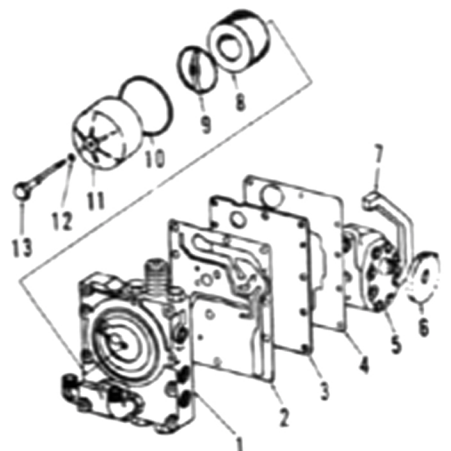
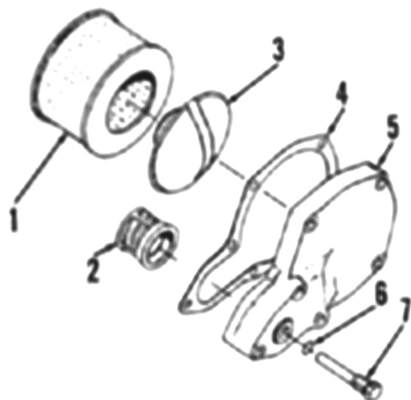

Fig. 24—Multiple control valve, hydraulic pump and filter located on left side of rear frame on all models.
Fig. 25—On Hydro 84 tractors, a hydrostatic drive filter located on left side of hydrostatic housing is used in addition to filter shown in Fig. 24.
11. Power steering is standard equipment on all tractors. Refer to Fig. 23 for view showing relative position of power steering components. The 12.5 gpm (Model 684) or 13.0 gpm (Models 784, 884 and Hydro 84) hydraulic pump is mounted on inside of multiple control valve (Fig. 24). Pressurized fluid from
12. The tractor rear frame serves as a common reservoir for all hydraulic and lubrication operations. The filter elements (Fig. 24 and Fig. 25) should be renewed at 10 hours, 100 hours and then every 200 hours of operation thereafter. Hydraulic fluid should be drained and new fluid installed every 800 hours of operation or once a year, whichever occurs first. Only IH "HyTran" fluid should be used and level should be maintained at full mark on dipstick.